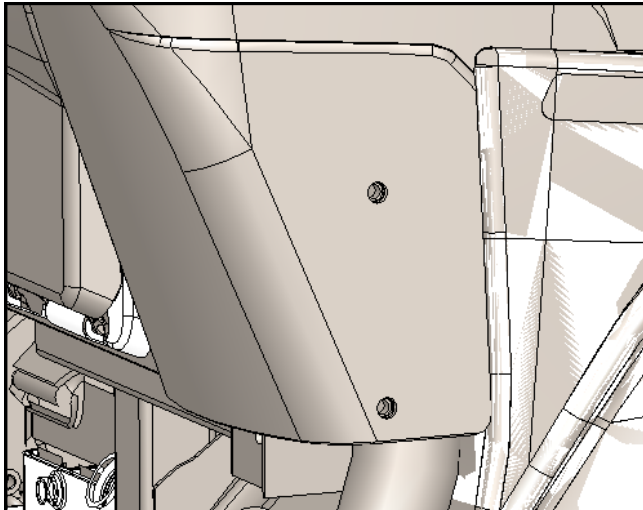

Fig. 2.6 (Fir Tree Clips Removed)
2.6 Remove the plastic fir tree clips from the right side of dashboard. See **Fig 2.6**.